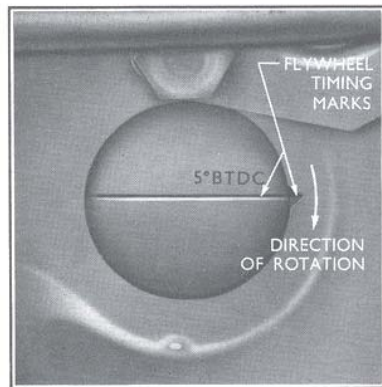

Fig. 14.
2. Loosen the flywheel aperture cover screw which is located at the left hand side of the clutch housing, and swing the plate to one side. The flywheel can be viewed through the aperture (Fig. 14). Remove the sparking plug from No. 1 cylinder and continue to rotate the engine until the 5° B.T.D.C. marking on the flywheel corresponds with "V" notch on the edge of the aperture.